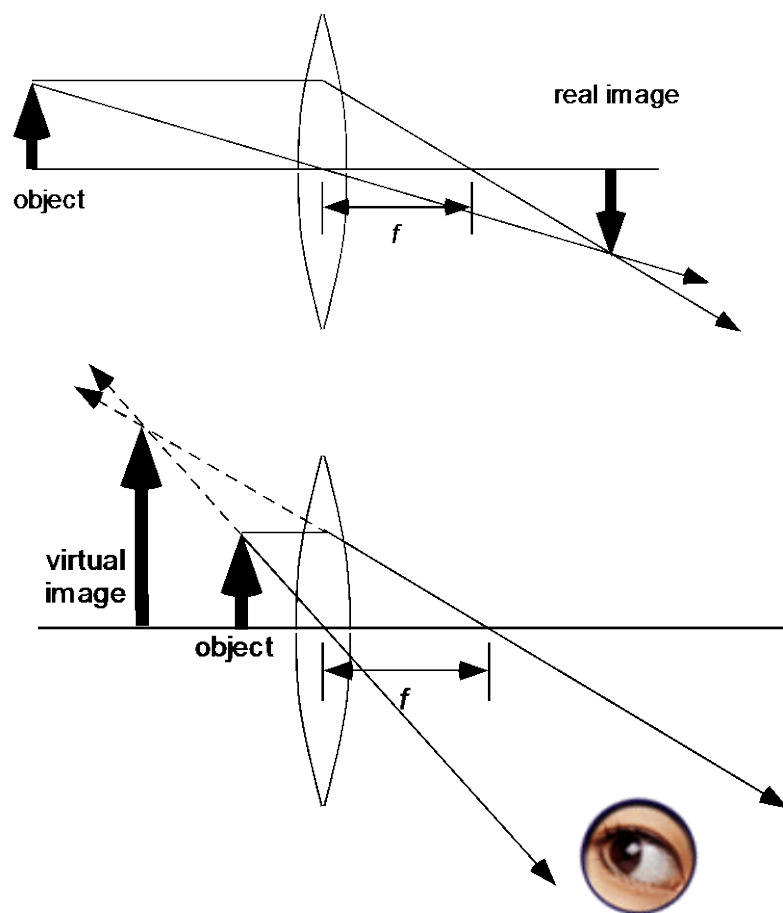

Figure 13.5. “Real” and “virtual” images.
For the purpose of viewing something, a lens is something that turns an **object** into an **image**. These terms are illustrated in Figure 13.3 and 13.4. Images can be real or virtual, as compared in Figure 13.5
Images are distinguished by whether they are **real** or **virtual**. Light rays pass through a real image, but not through a virtual image. Only a real image can be seen on a screen. This is illustrated in Figure 13.5, which also explains how to make a ray-tracing diagram.
2. Use a ruler to measure the required quantities in Figure 13.5 to compute the magnification. Report two magnification results: one for the real image, and one for the virtual image.